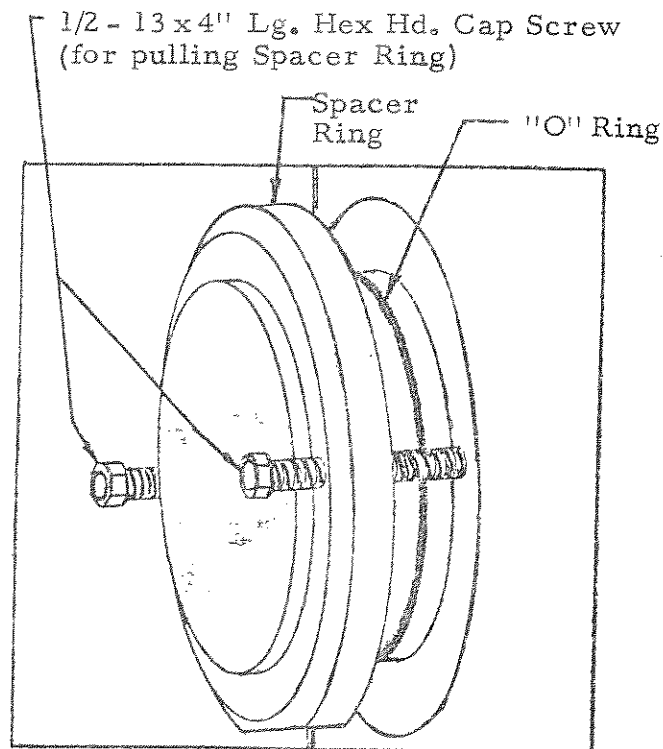

Fig. 27a
- (1) Refer to the Diagram, Fig. 27a below.
- (2) Remove the Socket Head Cap Screws from the Ring, using a 3/8 inch (9.6 mm.) Hex Socket Wrench.
- (3) For replacing the Spacer Ring back in its exact position, make corresponding marks on both the Spacer Ring and on the Machine.
- (4) Insert two 1/2 - 13 x 4 inch fully threaded Hex Headed Screws into the tapped Spacer Ring Pulling Holes.
- (5) Withdraw the Spacer Ring by turning these Screws evenly and alternately.
- (1) Use exactly the same procedure that you did when removing the Cylinder Rear Spacer Ring referring to the Diagram, Fig. 27a.